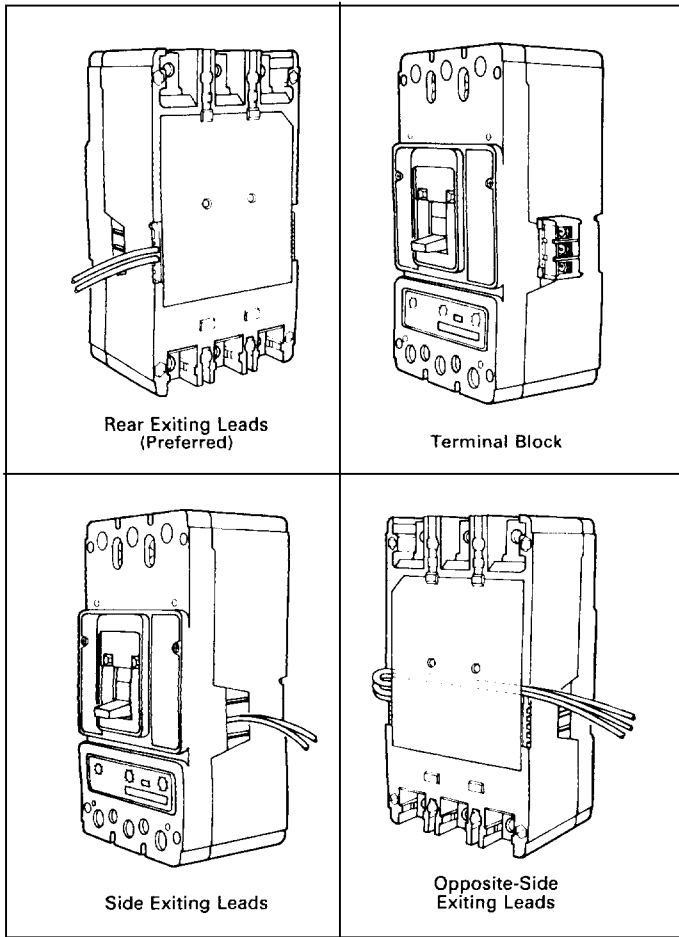

Fig. 2-4. Accessory Wiring Options
- 2-9. Route wiring to meet installation requirements (Fig. 2-4). If required, complete routing of leads to opposite side through rear wiring trough.